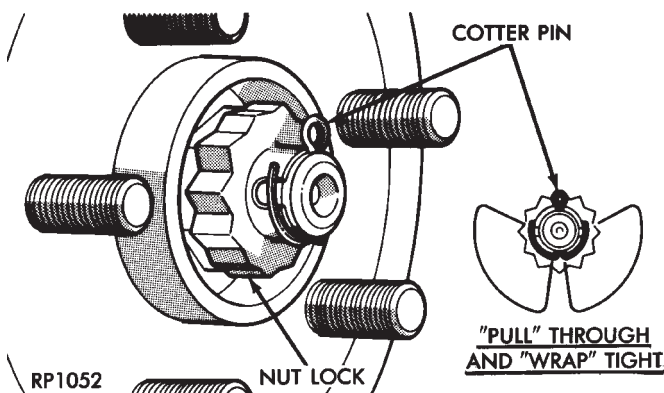

Fig. 48 Installing Spring Washer, Nut Lock And Cotter Pin
(11) Install the spring washer, hub nut lock, and a new cotter pin. Wrap cotter pin prongs tightly around the hub nut lock (Fig. 48).
(12) Install front wheel and tire assembly. Install front wheel lug nuts and tighten in correct sequence. Then tighten to a torque of 129 N·m (95 ft. lbs.).